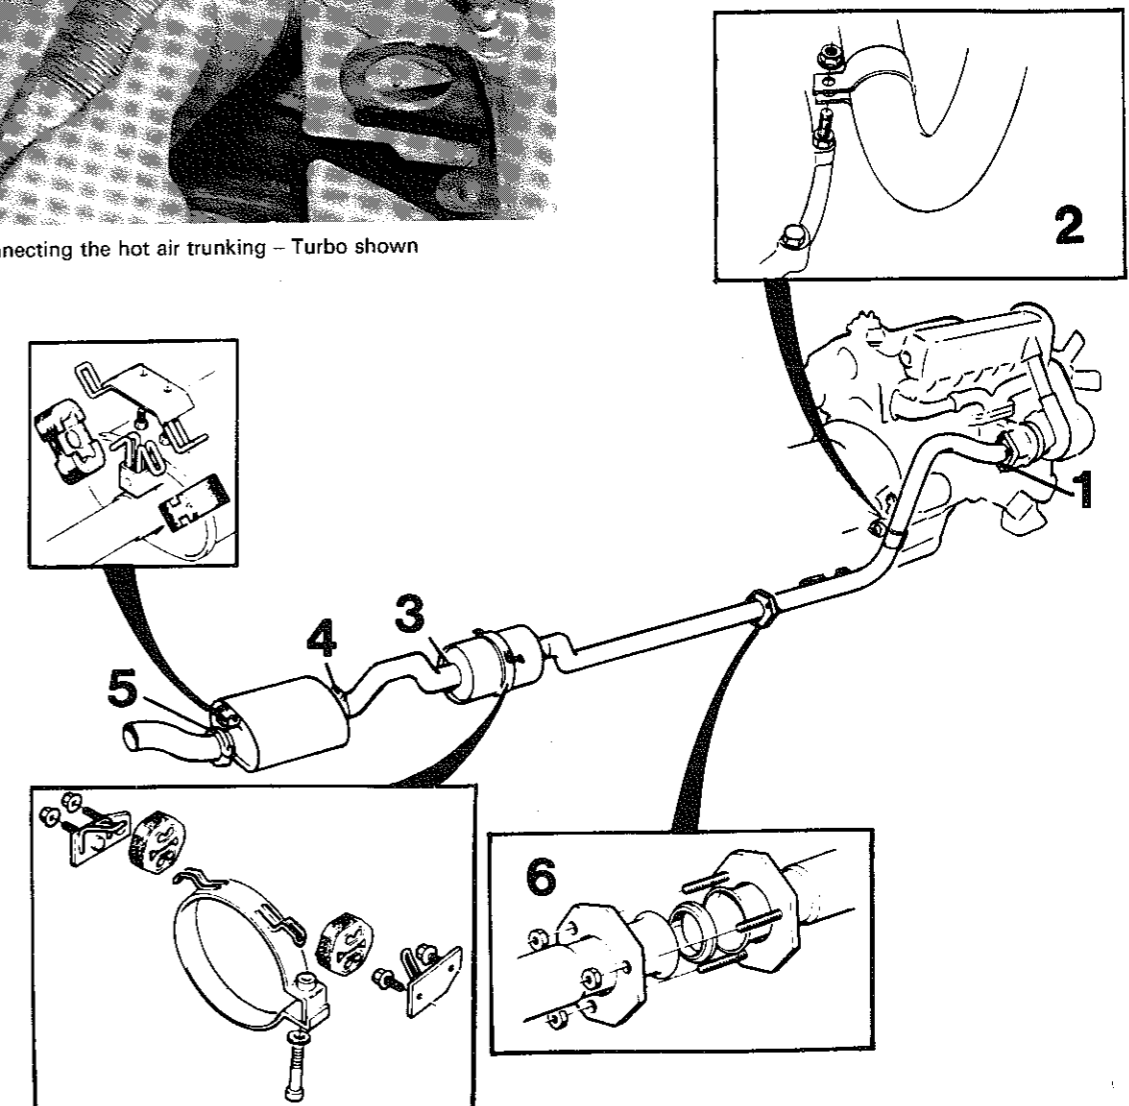

Fig. 3.17 Exhaust system details - B 23 ET. Tighten in numerical sequence (Sec 20)
- 10 Tighten all the joints from the front rearwards, but leave the bellhousing clamp loose until everything else has been tightened. (On models with the B23ET engine, follow the tightening sequence shown in Fig. 3.17). Twist the sliding joints slightly if necessary so that the system hangs easily and without touching the body.